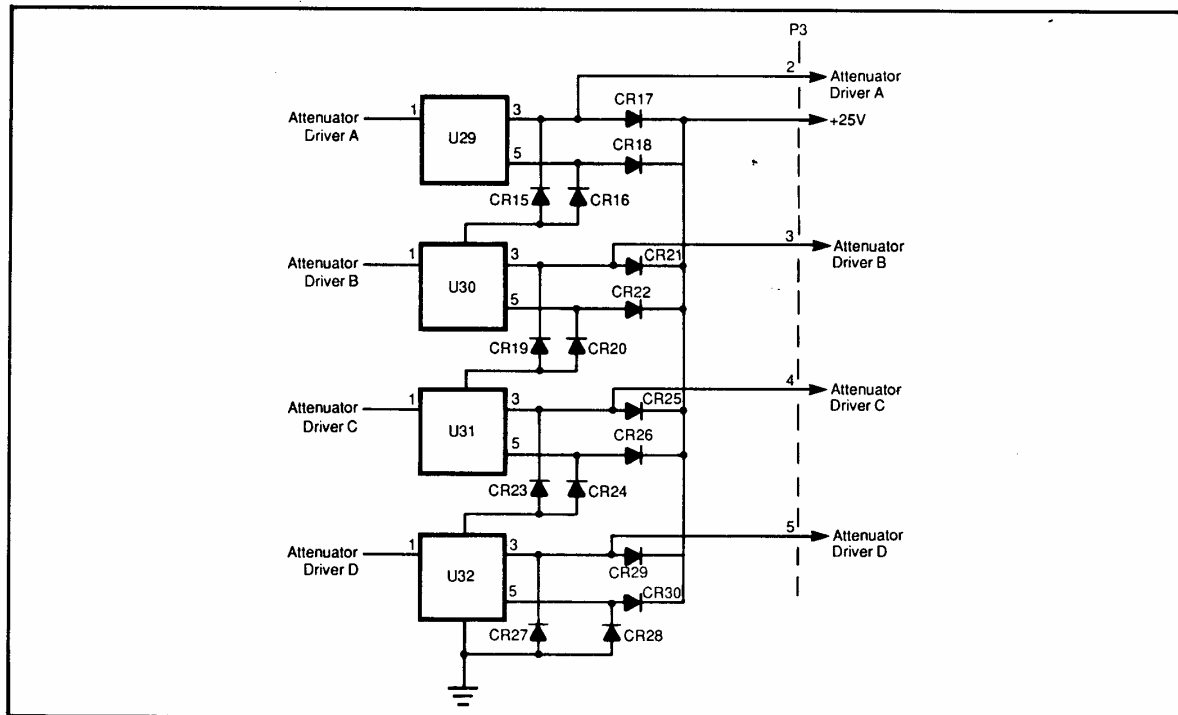

Figure 8-49. Step Attenuator/Relay Driver Circuit
5. The Step Attenuator/Relay Driver circuitry (Figure 8-49) consists of four 8-pin ICs: U29, U30, U31 and U32. These ICs are dual, positive-AND circuit, Power Drivers. Each power driver is capable of driving one relay. Diodes CR15 through CR30 protect the ICs against back EMF from the relay coils.